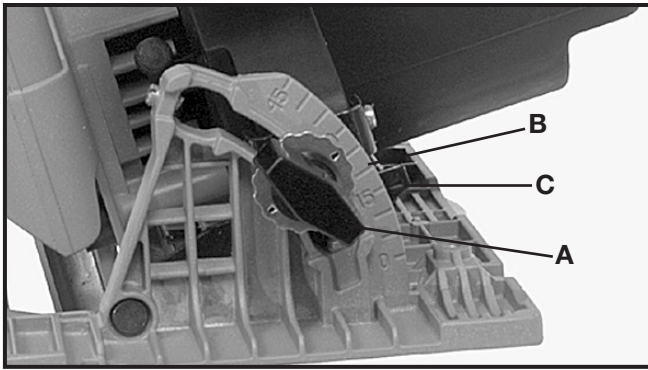

Fig. 5
2. Loosen the bevel adjusting knob (A) Fig. 5.
3. Tilt saw base until desired graduation line on the bevel segment (B) Fig. 5, lines up with indicating mark (C) Fig. 5 on bracket.
3. Loosen bevel adjustment knob (A) Fig. 5, and position base for 90° cut being sure that the bevel stop sleeve is against the 90° stop screw.
3. Loosen bevel adjustment knob (A) Fig. 5, and position base for 45° cut being sure that the bevel stop sleeve is against the 45° stop screw.